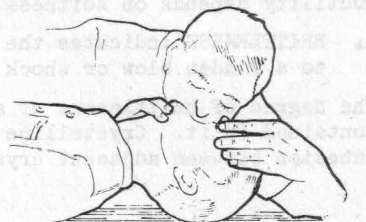

FIG. 6. KISS OF LIFE.
- **KISS OF LIFE.** If breathing stops or bleeding is severe, prompt action can save life. Treatment should be given by a qualified person, but where no such person is immediately available, it is the responsibility of the persons on the scene to save life. If breathing stops the 'kiss of life' should be applied and medical assistance called at the same time. The kiss of life is illustrated in Fig. 6 and described as follows: